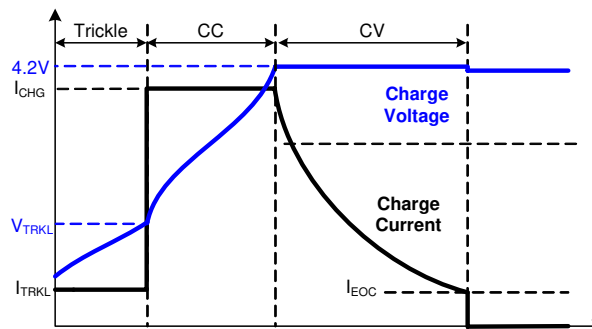

Figure 17. Charge Profile
The MC34674 follows the standard charging profile with trickle, constant-current (CC) and constant-voltage (CV) charge modes, as shown in Figure 17. The trickle-mode current  $I_{TRK}$  is pre-set to 10% of the CC-mode current  $I_{CHG}$  when the battery voltage is lower than the trickle-mode threshold  $V_{TRK}$ . In the CC-mode, the output voltage increases until it reaches 4.2 V. Then the charger enters the CV-mode with the output voltage regulated at 4.2 V. The end-of-charge (EOC) current threshold  $I_{EOC}$ , which is utilized to indicate the termination of a charge cycle, is preset to 10% of the CC-mode current.
The fast charge contains two modes, the constant-current (CC)-mode and the constant-voltage (CV)-mode. As shown in Figure 17, the charge current is regulated at a constant value in the CC-mode and the charger output voltage is regulated at a constant 4.2 V in the CV-mode. The charge current can be reduced by the die temperature regulation loop when the die temperature reached 110°C. The CC-mode current is set internally by Freescale. Available values are given in Table 6. Consult Freescale for values that are not listed in Table 1.